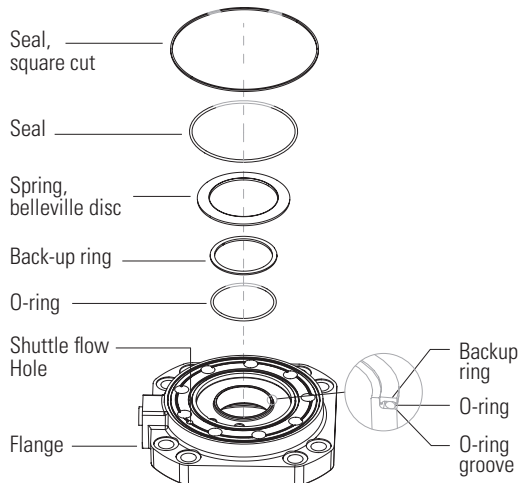

Figure 3
- With mounting flange o-rings grooves up, install two o-ring seals (150,8 [5.94] ID & 107,7 [4.24] ID) into flange. Install back up-up ring (69,5 [2.74] OD) over o-ring (63,2 [2.49] ID) with flat side up (See Figure 3). Back-up ring and o-rings may be greased to assist in retaining parts.